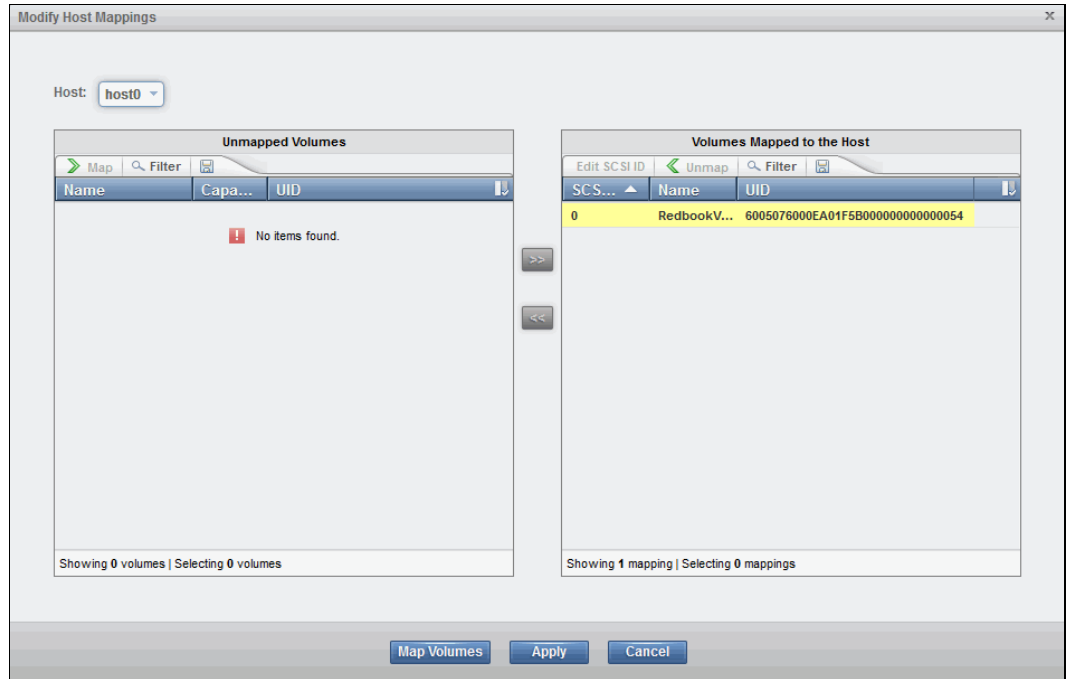

Figure 5-21 The Modify Host Mappings wizard showing Volume Mapped to the Host
- Select the host that you want to assign the mappings to. The window expands to the view shown in Figure 5-21.